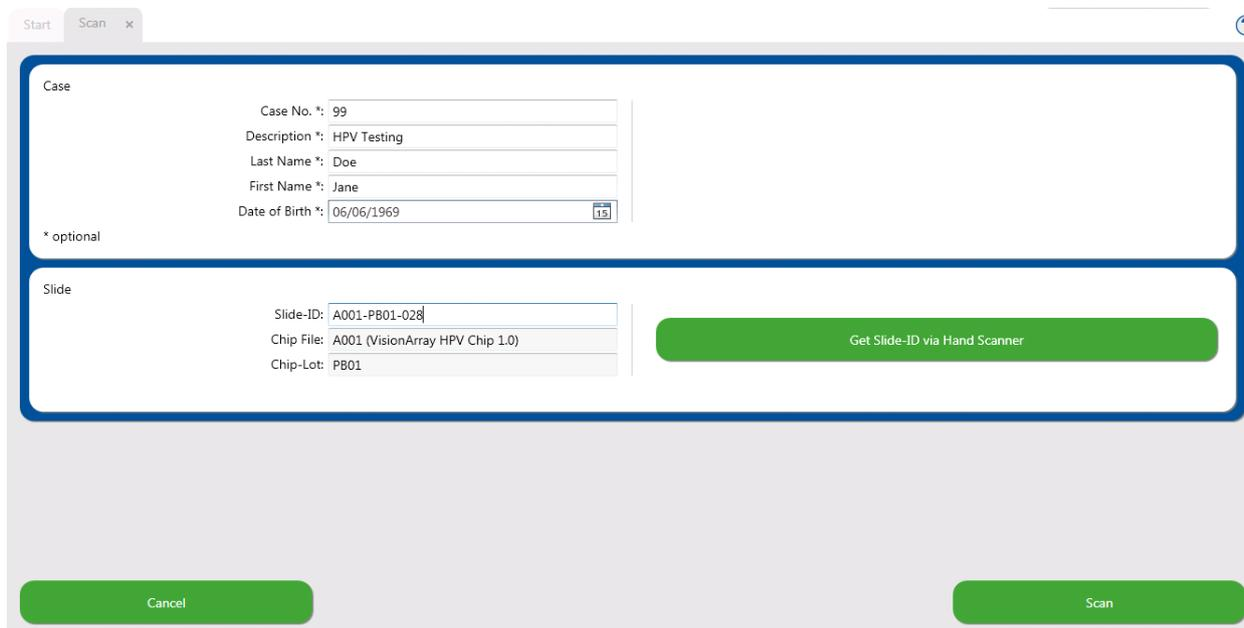

Figure 4: Scan tab
**Scan** on the starting screen opens a tab for data entry (Figure 4). All individual data about the case/patient and the chip can be entered here.